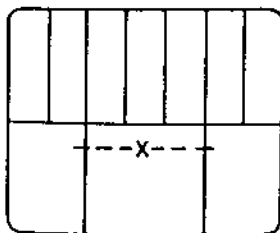

Fig. 5-15
- 3) Press one of the TRACKING buttons on the remote control until the "X" mark can be seen in the center position of the tracking range on the TV screen as shown in Fig. 5-15.
- 5) Insert a sharp flat head (→) screwdriver into the A/C HEAD BASE and (a) hole as shown in Fig. 5-15.
- 6) Move the A/C HEAD BASE by moving a screwdriver in the direction of the arrow as shown in Fig. 5-15 to obtain the maximum RF output, then tighten the (c) screw.